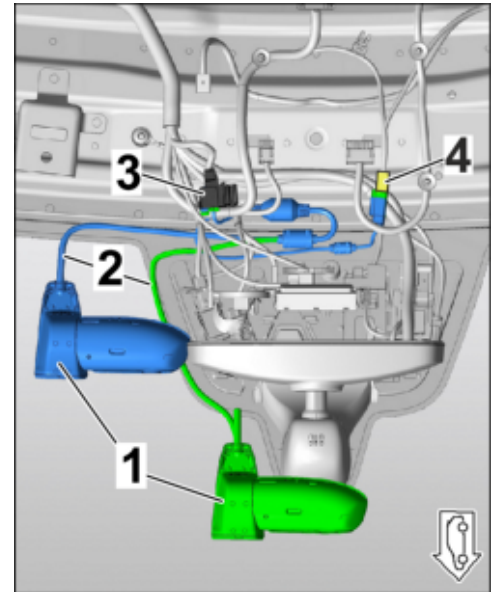

Figure 11 (9YB)
– Line routing - **Coupé (9YB)**: ⇒ *Figure 11 (9YB)*
- Blue** – Camera position for Germany (D)